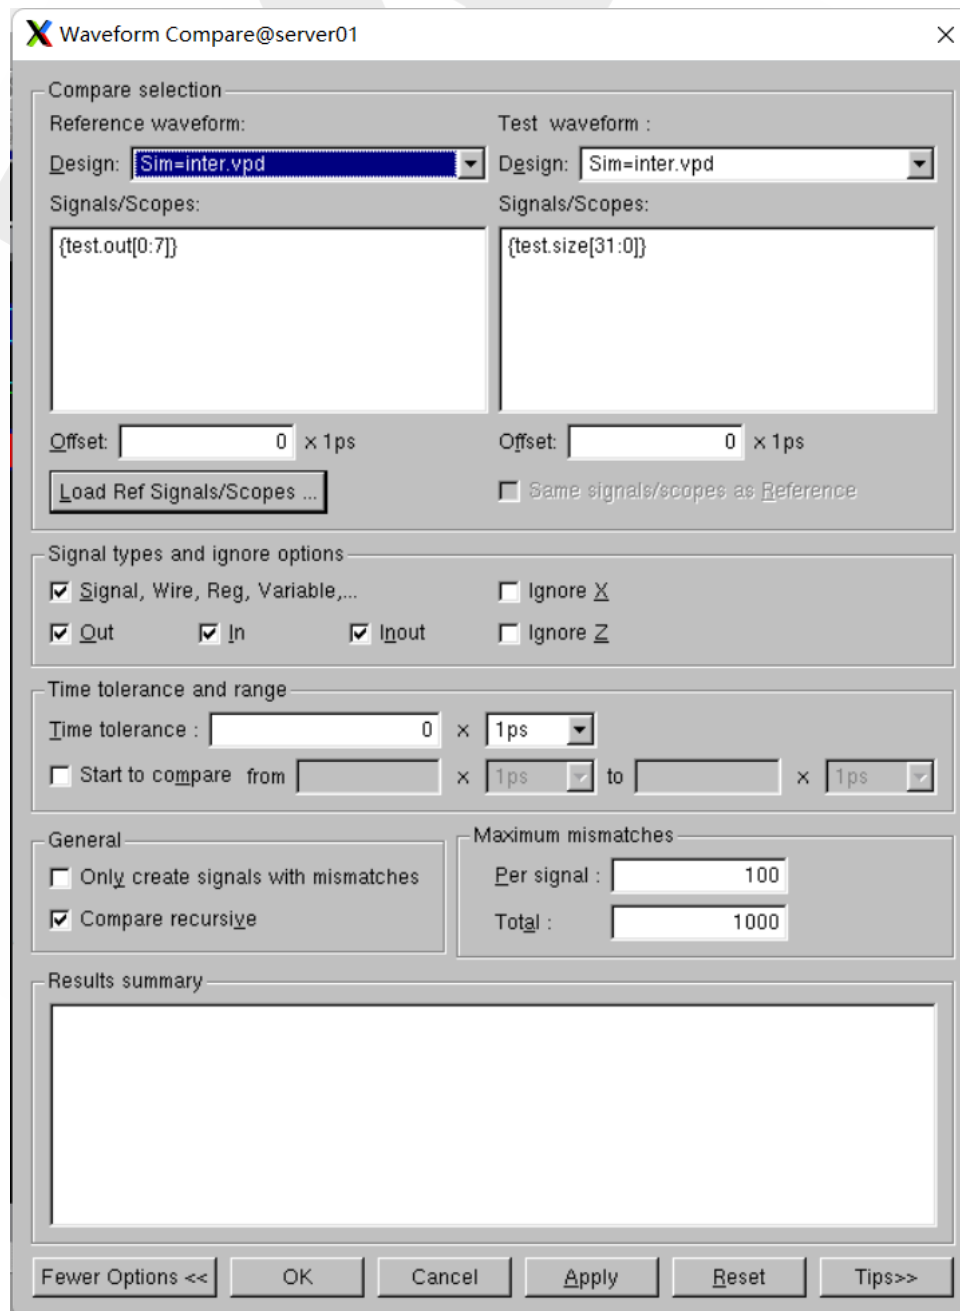

Figure 17: The Waveform Compare dialog box.
4. Click the More Options button (Figure 17)